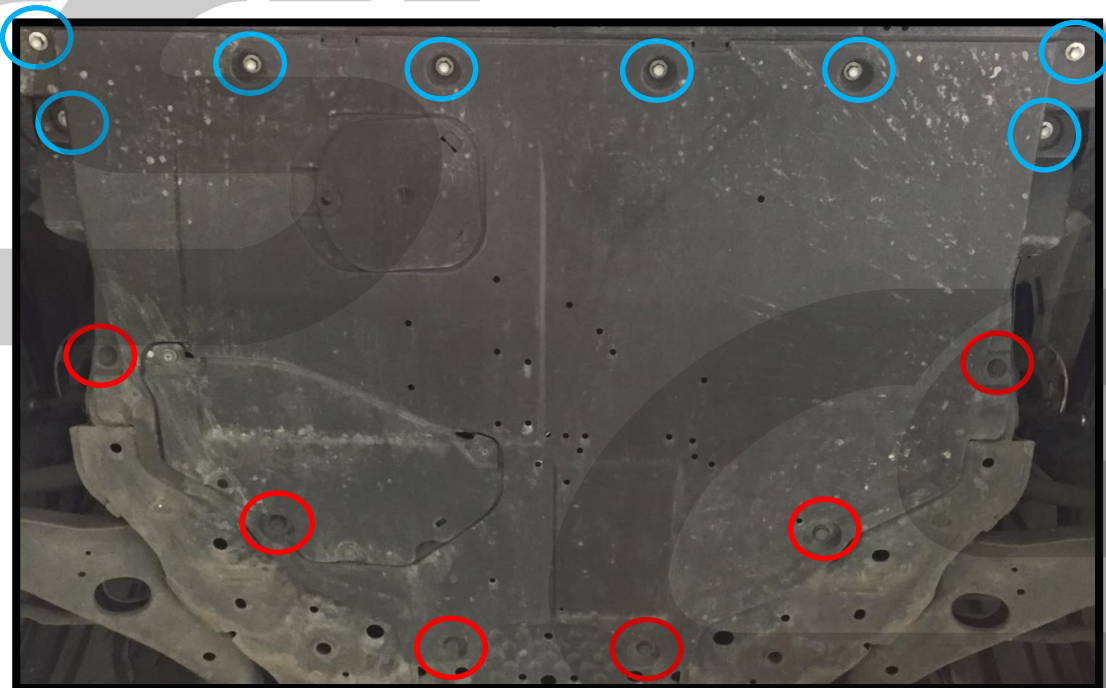

Figure 3c
- g) **Remove the rear section of the plastic under tray.** Remove six (6) push clips using a flathead screwdriver or trim removal tool (red circles in Figure 3c). Then remove eight (8) bolts using a 10mm socket (blue circles in Figure 3c).
- b) **Automatic Transmission Only:** If removed, reinstall the plastic undertray by installing the eight (8) 10mm bolts and six (6) push clips shown in **Figure 3c**.